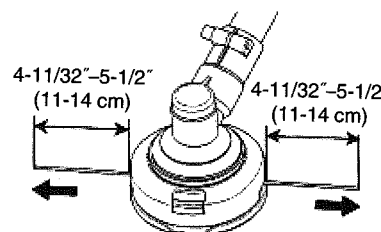

Fig. 42
(7) The initial cutting line length should be approx. 4-11/32"-5-1/2" (11-14 cm) and should be equal on both sides. (Fig. 42)